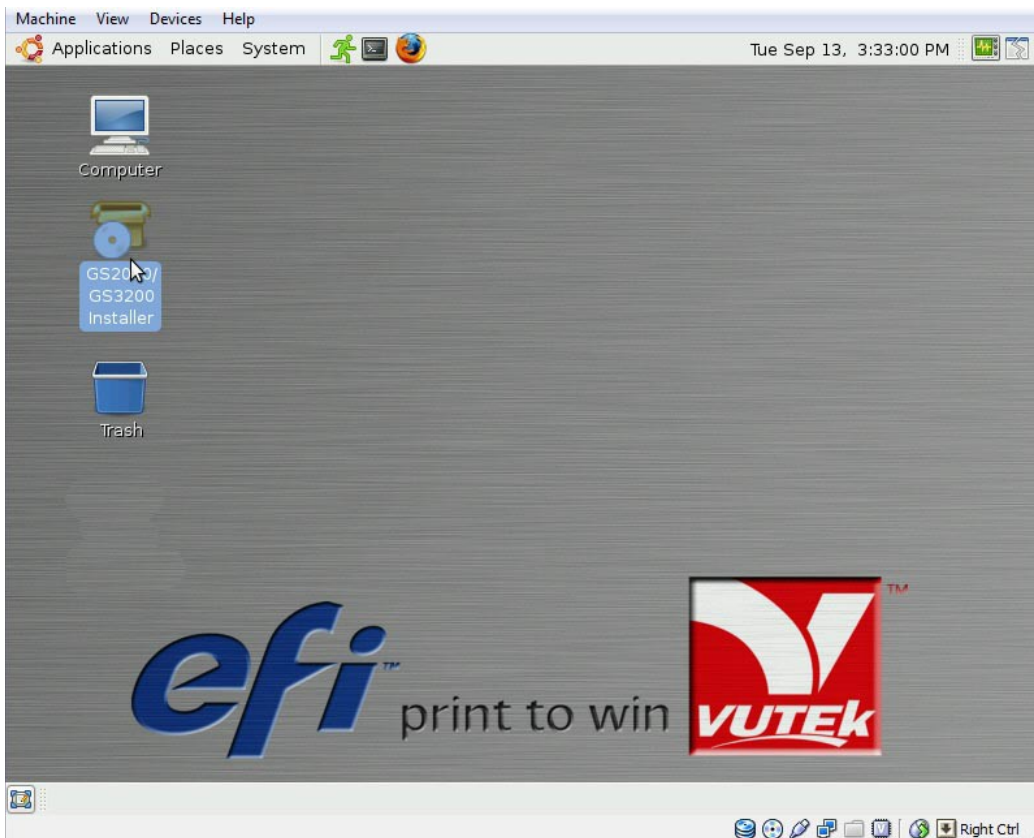

Figure 70: Desktop
1. After Stage 1 is complete, system will eject disc from drive and restart. System will then boot into Linux OS that was just installed. Once boot process is complete, you will see screen shown in **Figure 70**.